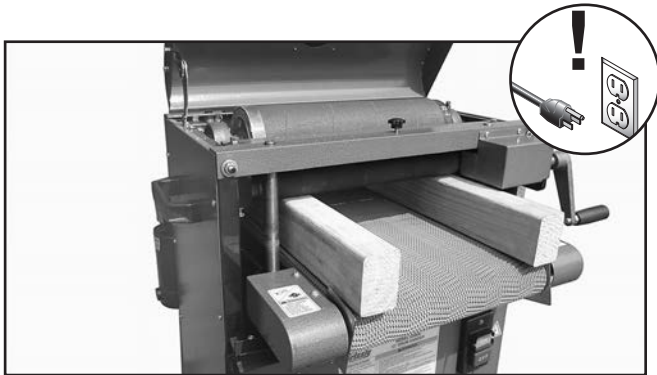

Figure 32. Gauge blocks positioned under pressure rollers and sanding drum.
- Place the gauge blocks on the conveyor table and position them under the pressure rollers, as shown in **Figure 32**.
3. Place the gauge blocks on the conveyor table and position them under all the pressure rollers (**Figure 32**).